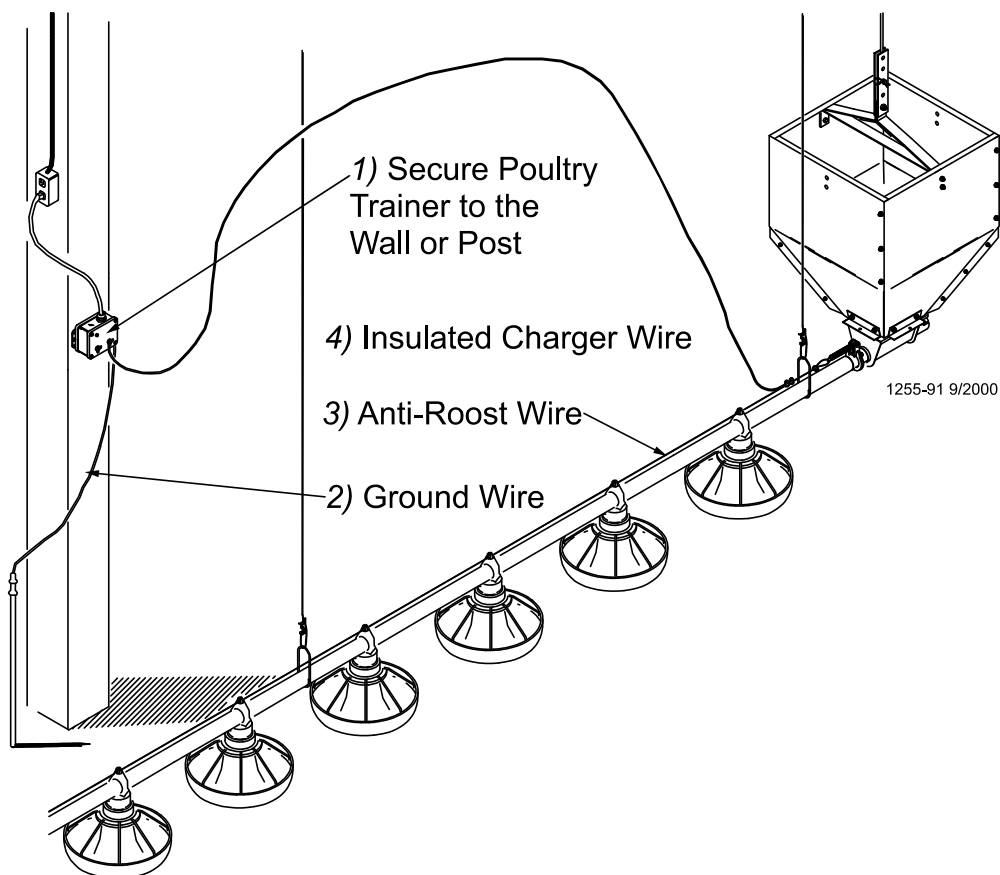

Figure 85. Poultry Trainer Installation
11. Install the Poultry Trainer or Line Charger, as shown in **Figure 85 or 86**.